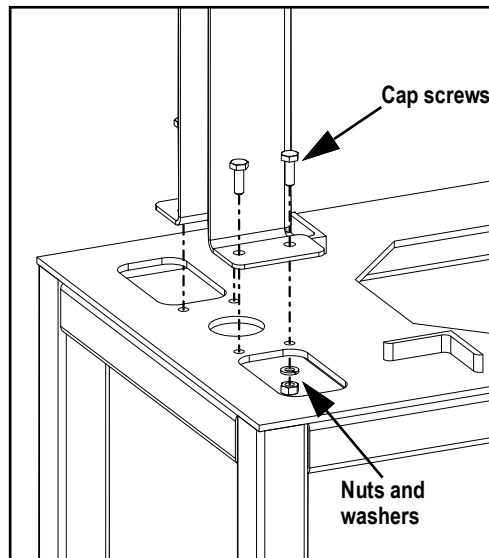

Figure 2-3. Indicator Stand Installation
1. Install four 1/4 in hex cap screws through the indicator stand into the upper platform of the cart assembly (see Figure 2-3).